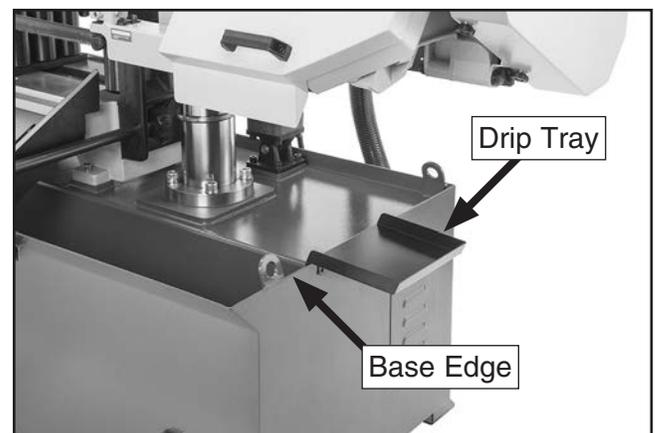

Figure 18. Drip tray positioned.
5. Position drip tray on base edge, as shown in **Figure 18**.